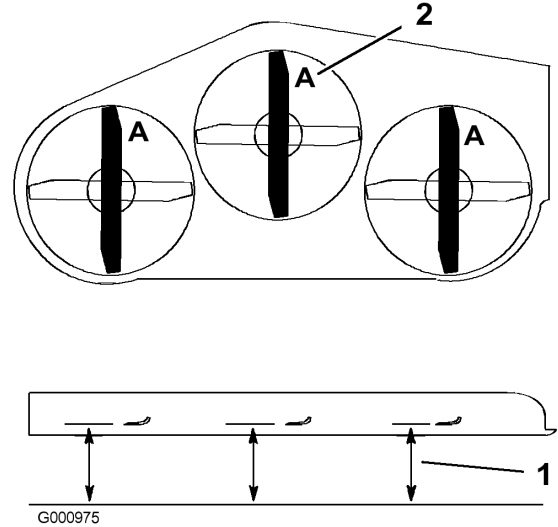

Figure 65
3. Rotate the blades until the ends face forward and backward (Figure 65). Measure from a level surface to the cutting edge, position A, of the blades (Figure 65). Note this dimension.